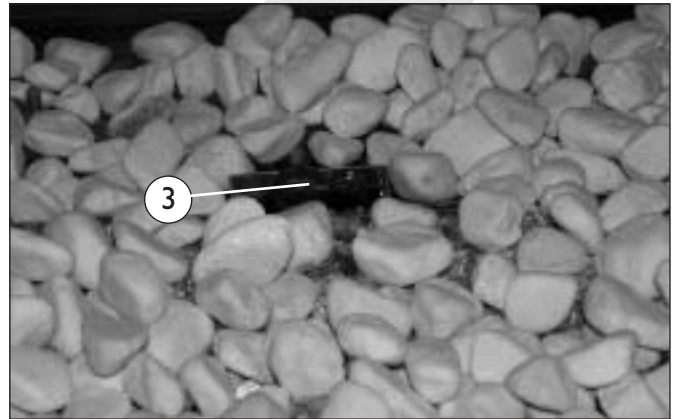

fig. 18
- Make sure that there are no stones in front or between the pilot light burner (3) as this could prevent the pilot light from working properly (fig. 18).